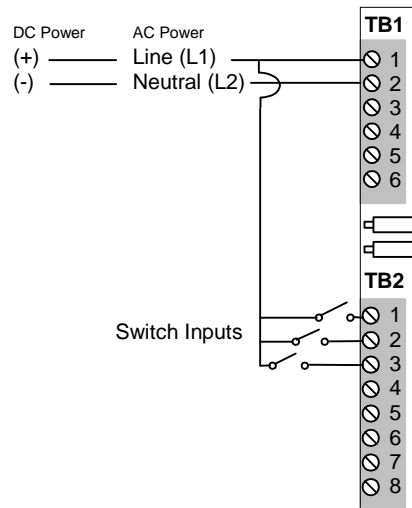

Figure 5: Wiring for Switch Inputs
There are three (3) switch inputs that are programmable using variable 14. They are used to Reset the outputs, or to freeze the display. Inputs 1, 2, and 3 require a voltage equal to the supply voltage, which is at the same potential as the input Line (L1) voltage. The opposite sides (*non accessible*) of these solid-state inputs are tied to input Neutral (L2). Wire input 1 to TB2-1, input 2 to TB2-2, and input 3, to TB2-3. See Figure 5.